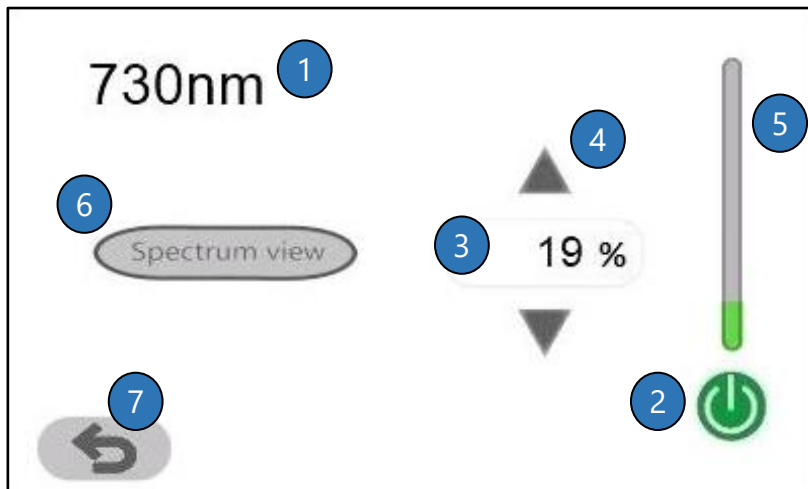

Figure 2. LED screen
If there are several LEDs that have the same wavelength, their current will be set to the same percentage. To adjust the current of each LED/LEDs with the same wavelength (see **Figure 2** on the next page), please touch the LED box.
On the top left corner of the screen (1), see **Figure 2** on the next page, the central wavelength of the LED is indicated. On the right, the percentage of the nominal output current of the LED can be adjusted from 0% to 100% with the following controls:
- **LED ON/OFF button (2):**
By pressing the screen, you will be returned to the LED screen (see **Figure 2**).